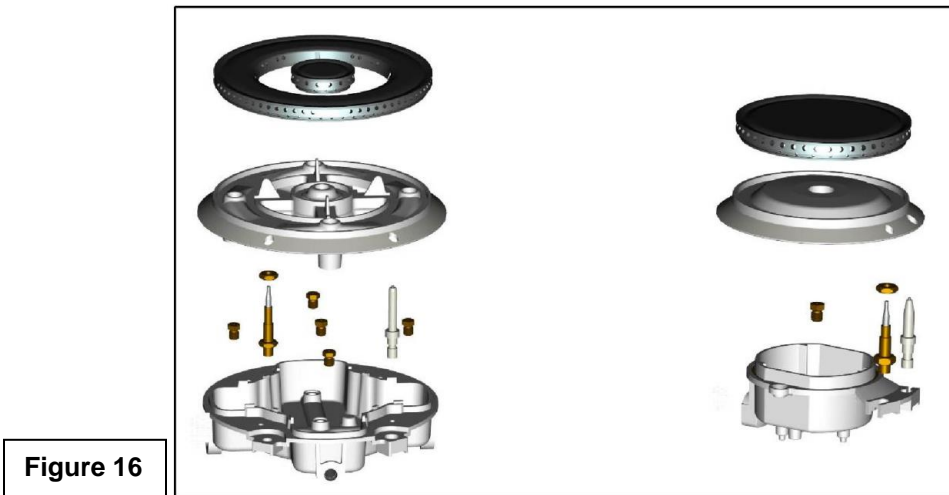

Figure 16
1. Place burner heads over the burner base. Make sure the hole in the burner head is properly aligned with the electrode in the burner base (see Figure 16).